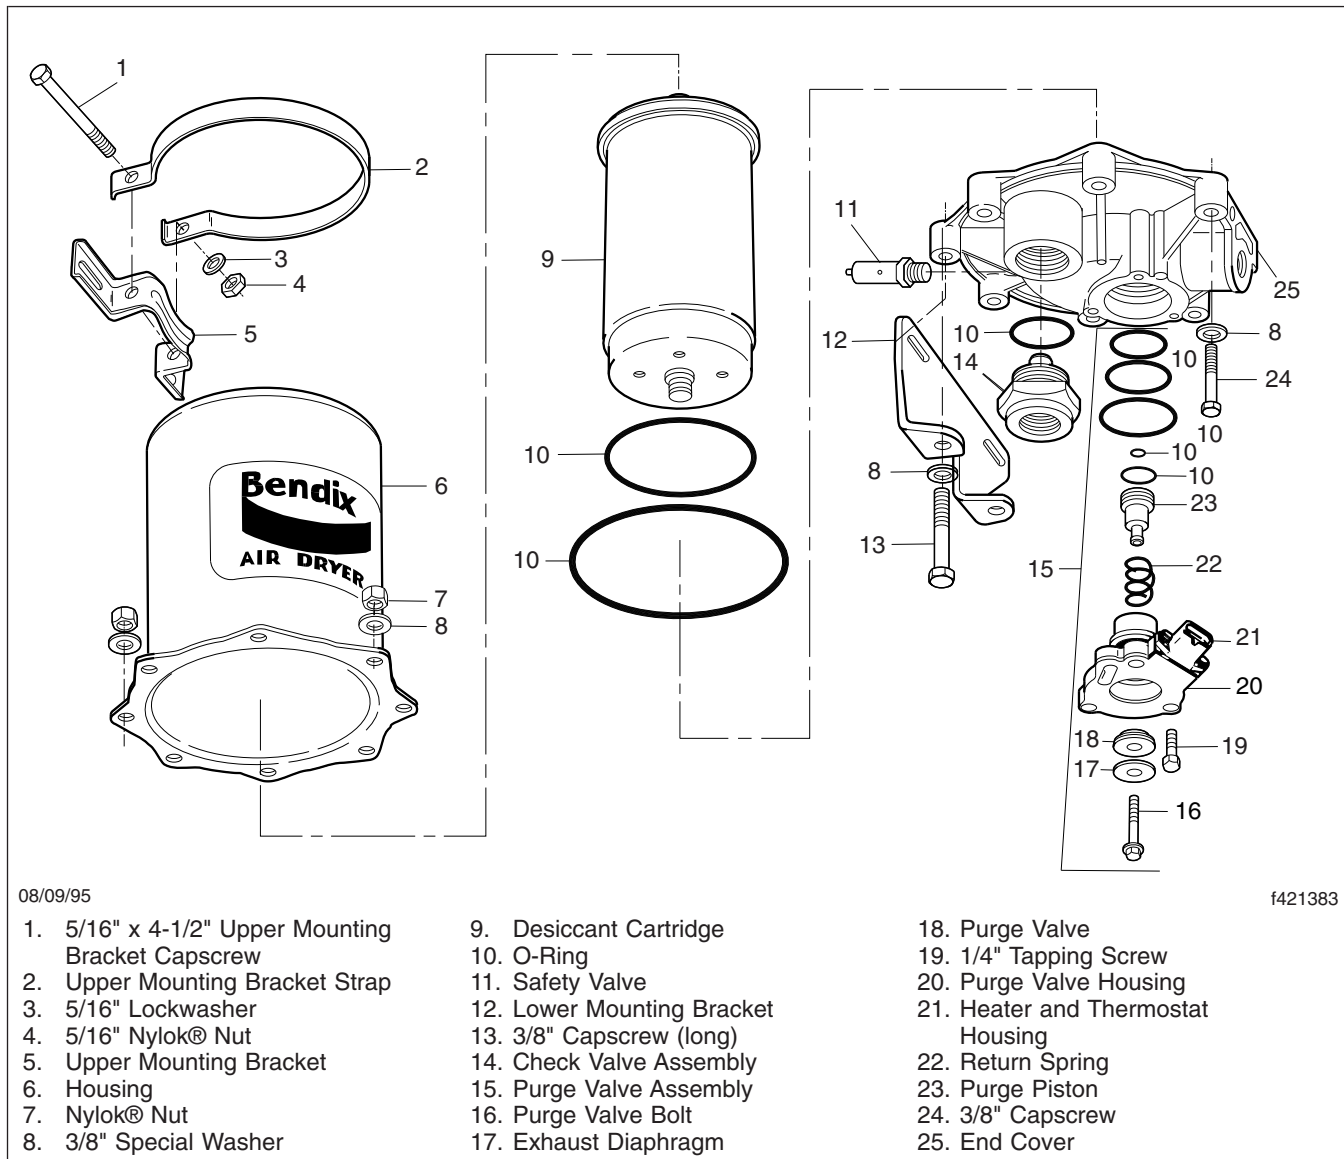

Fig. 1, AD-9 Air Dryer (exploded view)
8. Place the air dryer on a bench and remove the remaining 6 capscrews, 12 washers, 6 Nylok® nuts, and the air dryer housing. See **Fig. 1**. Discard the Nylok nuts. Remove the end-cover-to-housing O-ring.